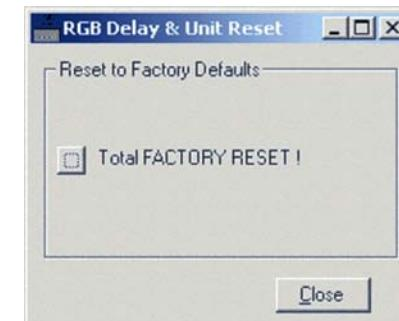

Figure 3-6 — RGB Delay & Unit Reset window
1. Click Unit Reset on the Configure menu. The RGB Delay & Unit Reset window appears (figure 3-6).